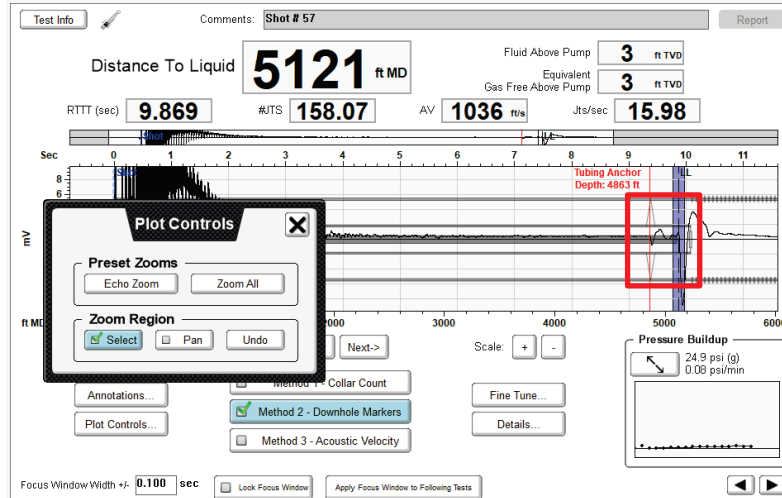
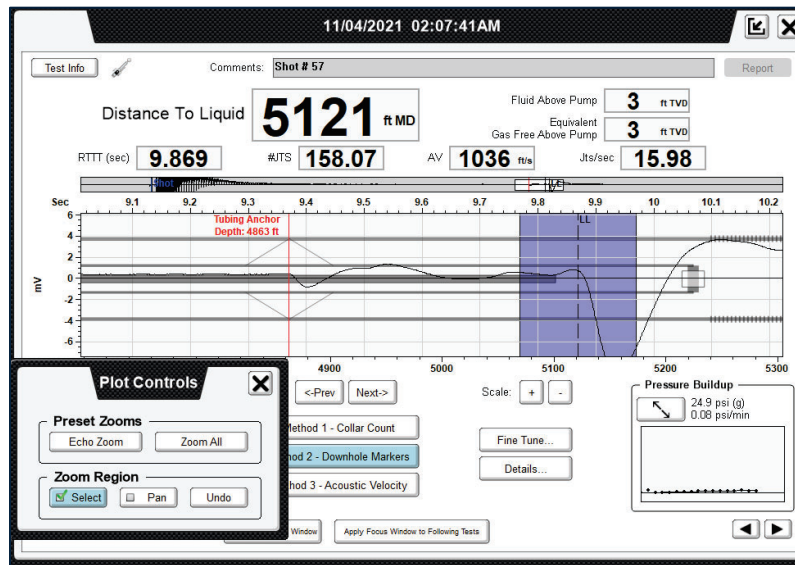

Figure 51: Select Zoom Region Plot Control Button
Figure 52: Zoomed-in region from 9 to 10.2 seconds.
- Using the **Select** tool allows the user to draw a box around a region of interest directly on the main trace plot. After clicking the “Select” button, the user’s mouse cursor will turn into a plus (+) sign when hovering over the main plot. Clicking and dragging on the plot allows the user to draw a red box (see Figure 51) over the trace enclosing the section of interest (from 9 to 10.2 seconds) to display the record with an expanded timescale as shown in Figure 52.